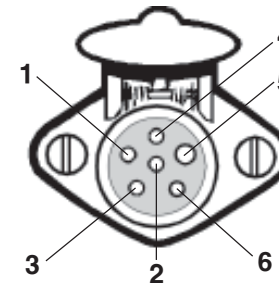

Figure 15
3. Loosen all of the set screws on the side of the socket, and connect the wires to the back of the socket, as shown in Figure 15. Or, wire the socket to match the existing wiring on the motorhome.
5. If your motorhome does not have the correct wiring socket already, you can replace it with the new socket for the six-wire cord, and connect the appropriate wires to the new socket, according to Figure 15.